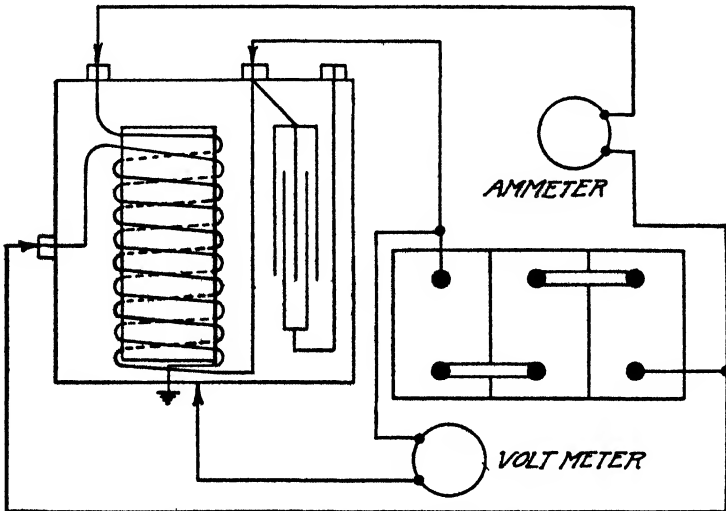

Fig 43-d. Testing Primary Winding with Ammeter and Testing Secondary Winding with Voltmeter
*To test secondary windings on high tension coils:* Either a voltmeter in series with a 6-volt battery may be used for this test or the 110-volt lamp test set may be used. With the voltmeter test one lead from the battery should be placed on the end of the secondary winding. A wire from the voltmeter should be attached to the base of the coil and the other voltmeter terminal should be connected to the battery, Fig. 43-d. If the winding is in good condition, the volt-